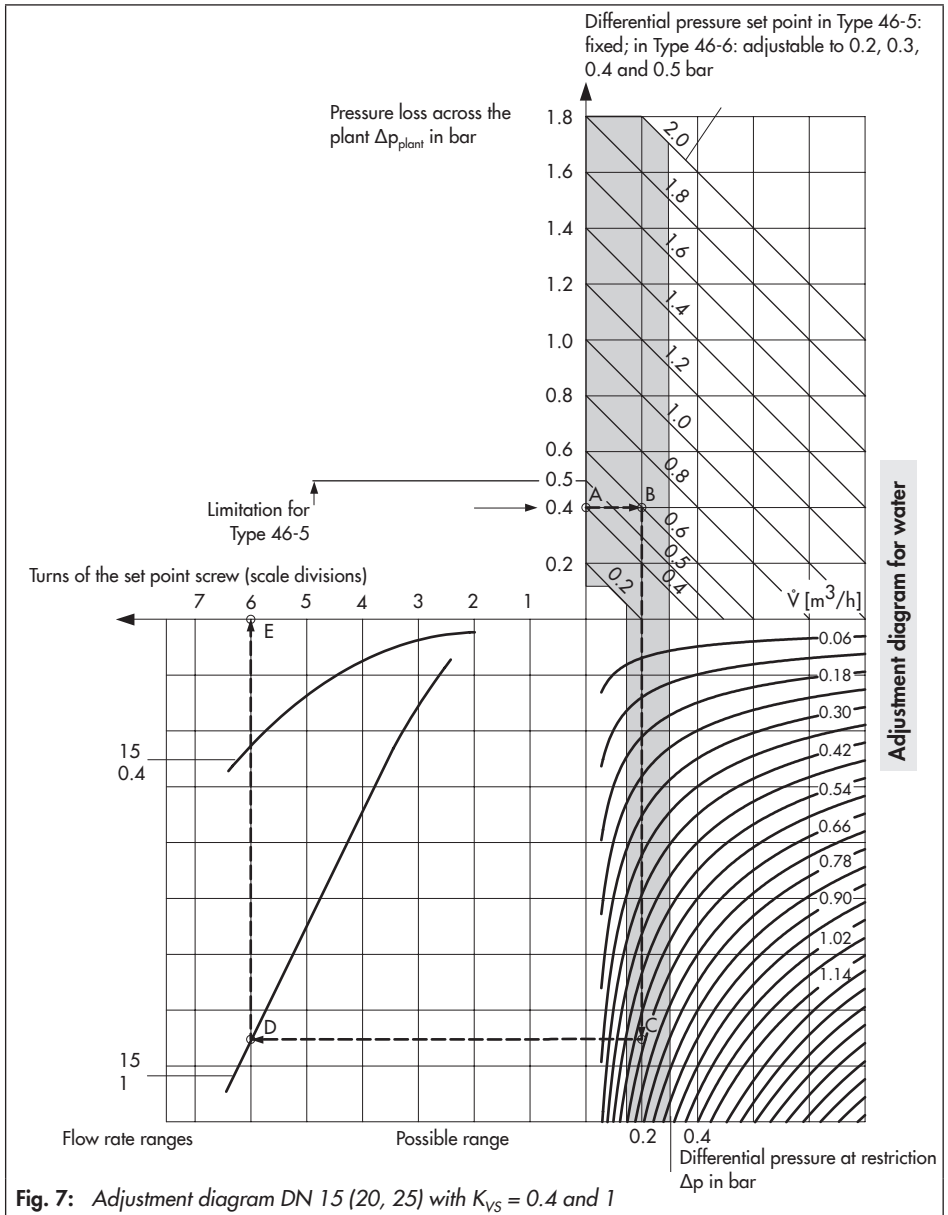
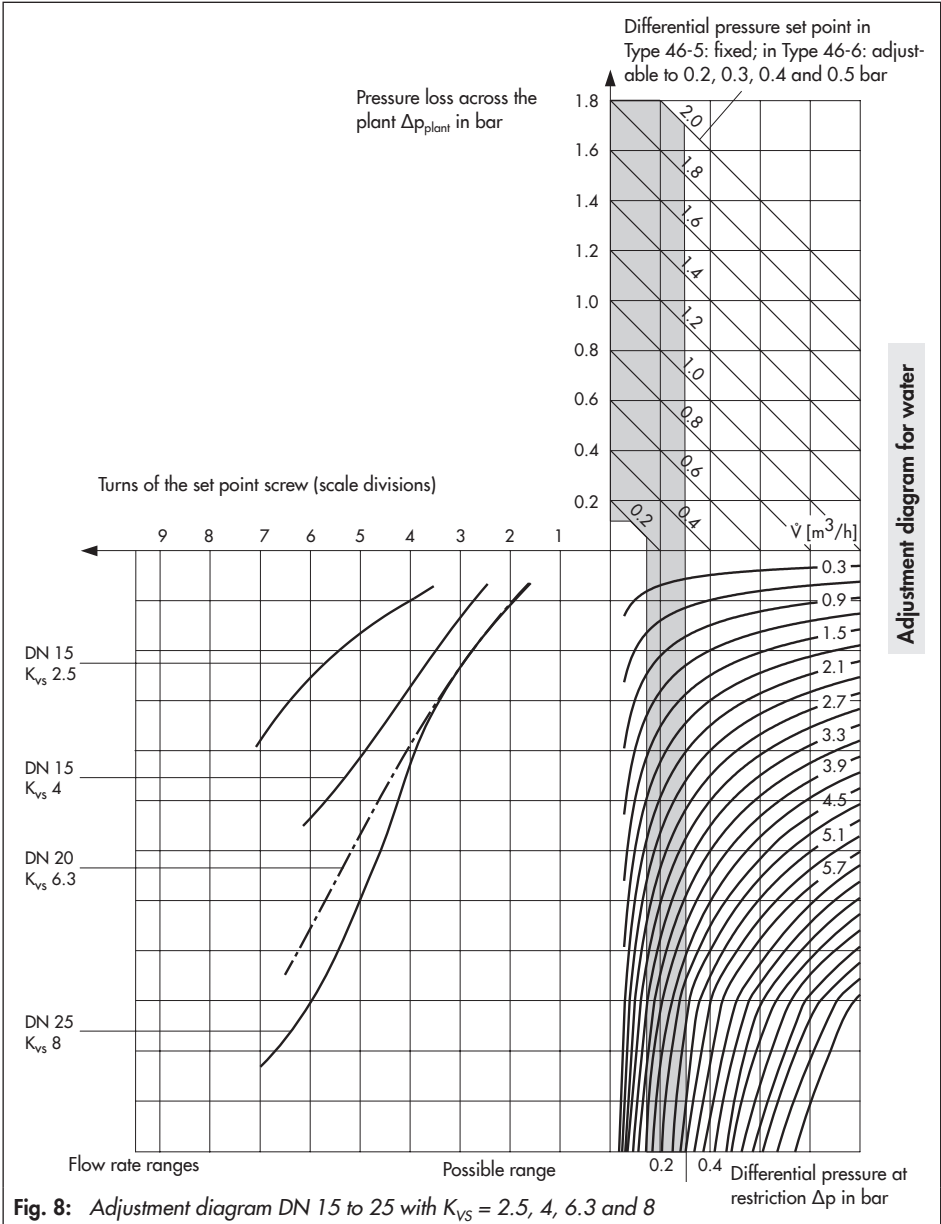
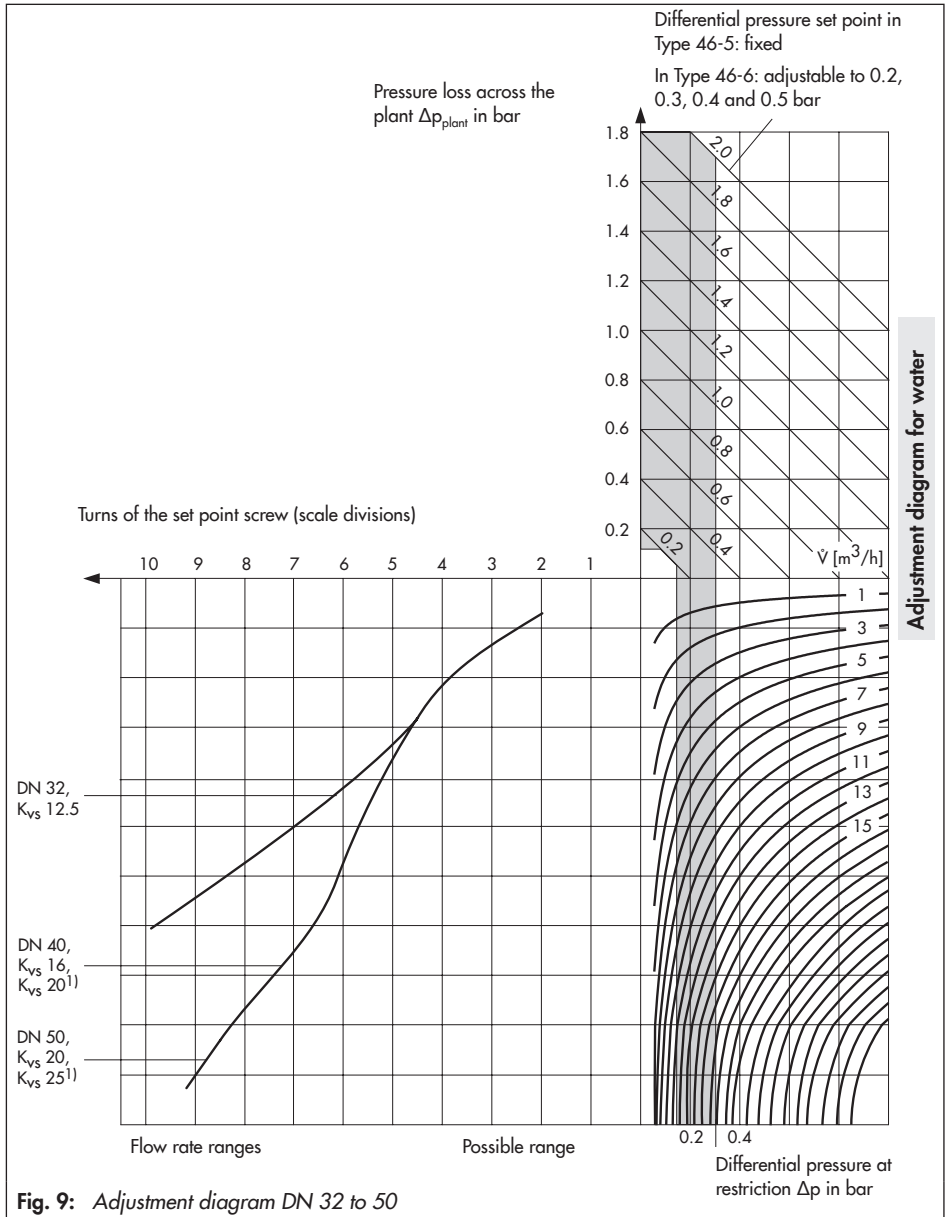

Fig. 7: Adjustment diagram DN 15 (20, 25) with  $K_{VS} = 0.4$  and 1
Fig. 8: Adjustment diagram DN 15 to 25 with  $K_{vs} = 2.5, 4, 6.3$  and  $8$
Fig. 9: Adjustment diagram DN 32 to 50
To adjust the flow rate limit when the pressure drop of the plant is known, use the adjustment diagrams for water (Fig. 7, Fig. 8 and Fig. 9).
To determine the flow limitation to be adjusted, and for Type 46-6 additionally the differential pressure required, the differential pressure across the restriction ( $\Delta p_{\text{restriction}}$ ) must be added to the known pressure drop of the plant ( $\Delta p_{\text{plant}}$ ). From experience, the differential pressure at the restriction is assumed to be 0.2 bar. The curves of the flow ranges in the following diagrams (Fig. 7, Fig. 8 and Fig. 9) apply to 0.2 and 0.4 bar.
- Determine the adjustment values using the adjustment diagram Fig. 7 on page 17.
Sequence: points **A** to **E** in diagram (Fig. 7).